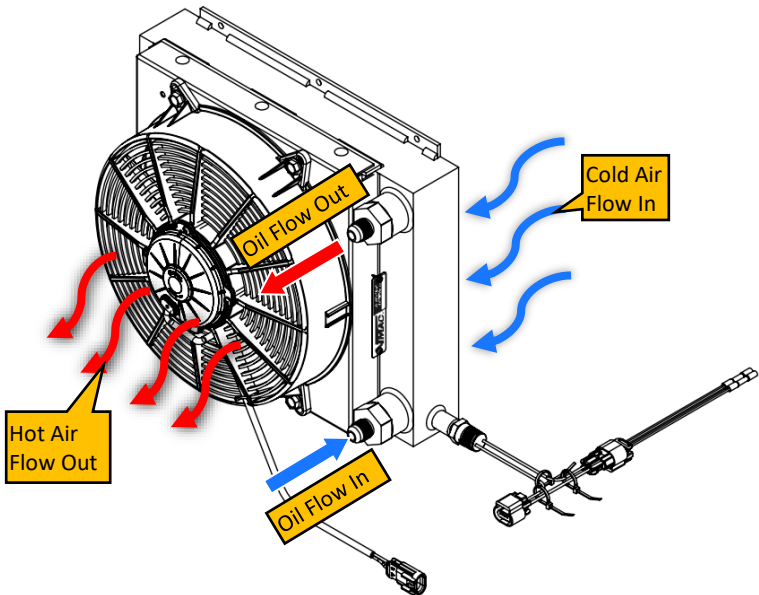

Figure 1 - Oil Cooler Overview
Locate the VMAC air to oil cooler in a suitable location that provides good cool air flow and easy accessibility (Figure 1). The unit should have at least 8in of clearance on all sides. Ensure there is sufficient space to connect the air lines, connect the wiring, and maintain good air flow. For best performance, the location should be set up such that the hot air exiting the cooler is not able to circle around and re-enter the cooler; ensure that there is a constant flow of cool air.
- Connect the oil line from the separator tank (hot oil) located at the bottom of the oil separator tank to the “Oil Flow In” fitting located at the bottom of the air to oil cooler (Figure 1). Use a second wrench to support the fitting on the component and prevent it from spinning when tightening. The recommended hose size is #8 (1/2”) hose.
- Connect the oil return line (cooled oil) located on the bottom left of the compressor to the top “Oil Flow Out” fitting at the top of the air to oil cooler (Figure 1). Use a second wrench to support the fitting on the component and prevent it from spinning when tightening. The recommended hose size is #8 (1/2”) hose.